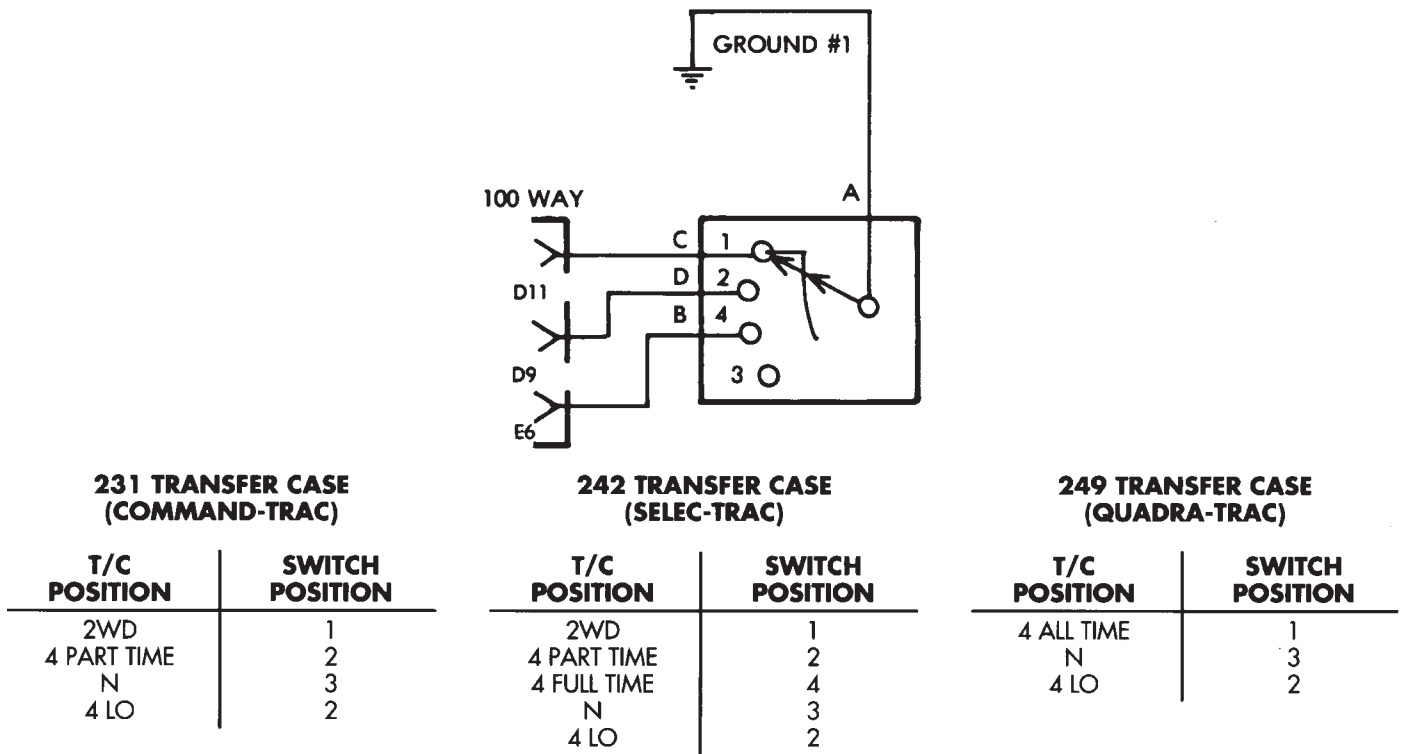

Fig. 1 Transfer Case Switch
(1) Unplug the wire harness connector at the transfer case switch. Check for continuity between the ground circuit cavity of the transfer case switch wire harness connector and a good ground. There should be continuity. If OK, go to Step 2. If not OK, repair the open circuit as required.
(2) Check the transfer case switch continuity while shifting the transfer case shift lever to the proper positions. The switch continuity should be as shown in (Fig. 1). If OK, go to Step 3. If not OK, replace the faulty switch.
(3) Disconnect and isolate the battery negative cable. Remove the GDM as described in this group. Unplug the GDM wire harness connector.
(4) Check the continuity of the circuit for the indicator lamp or wheel lamp that is not functioning between the GDM wire harness connector and the transfer case switch wire harness connector. There should be continuity. If OK, go to Step 5. If not OK, repair the open circuit as required.
(5) Replace the bulb for the inoperative indicator lamp or wheel lamp. Plug in the GDM and transfer